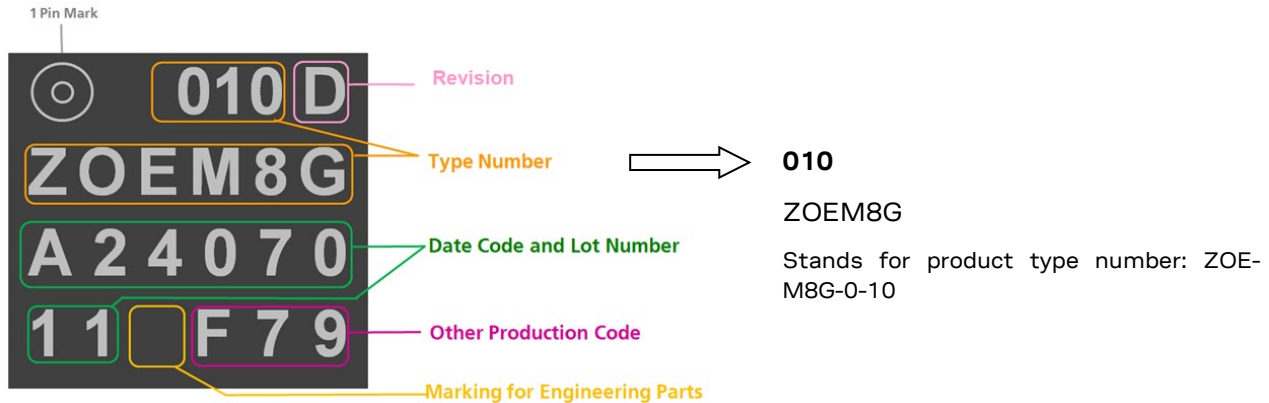

Figure 7: Description of ZOE-M8 product label (top view)
The labeling of u-blox M8 GNSS SiP products includes important product information. The location of the ZOE-M8 product type number is shown in Figure 7.
-  The pin 1 marking shown in Figure 7 has changed. The change is effective from production date code and lot number **C0501XXX** (ZOE-M8G) and **B5101XXX** (ZOE-M8Q) onward.